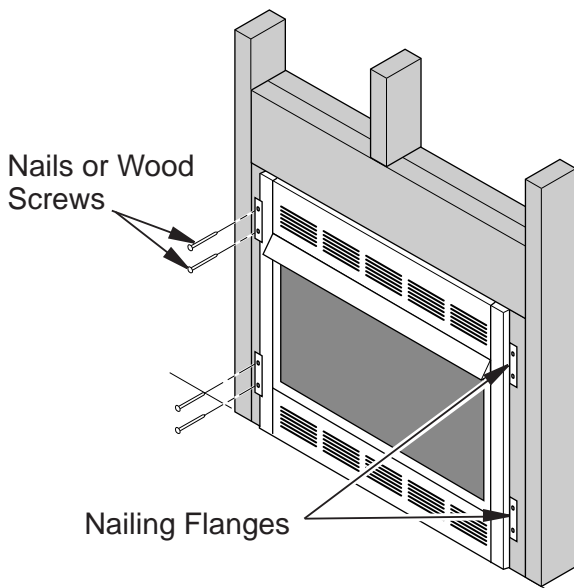

Figure 16 - Attaching Fireplace to Wall Studs
13. Attach fireplace to wall studs using nails or wood screws through holes in nailing flange (see **Figure 16, Page 11**).